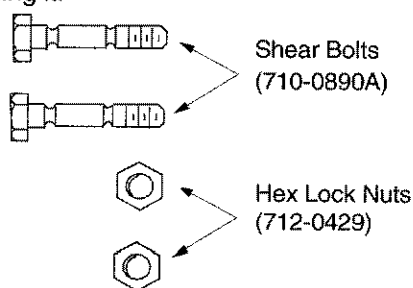

Figure 1
- The snow thrower is shipped with following loose parts in the carton. See Figure 1 for illustration, description of item and part number. Please remove all loose parts from the carton before discarding it.